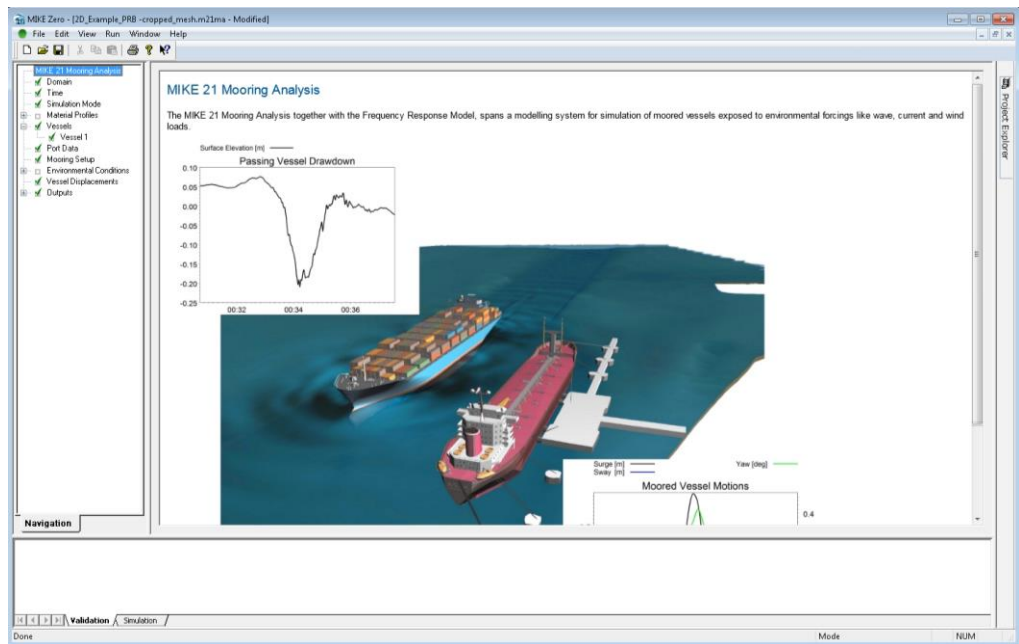

Figure 3.14 M21 MA main page
1. Open a new instance of the (.m21ma) editor as shown in Figure 2.8, by clicking OK. The M21 MA main page (Figure 3.14) should appear on the screen.